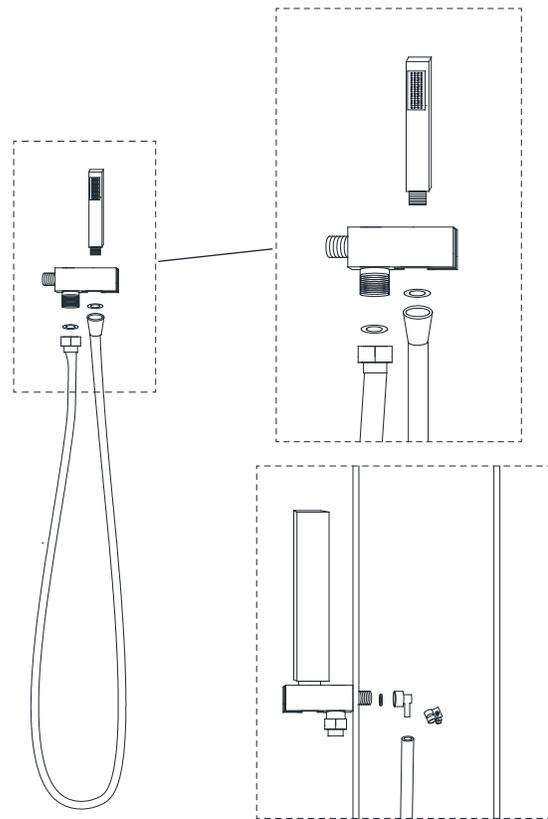

Fig 3
3. Assemble the **Handshower (#06)**, **Shower Holder (#04)** and the **Shower Supply Hose (#07)** according to the diagrams in **Fig 3**.